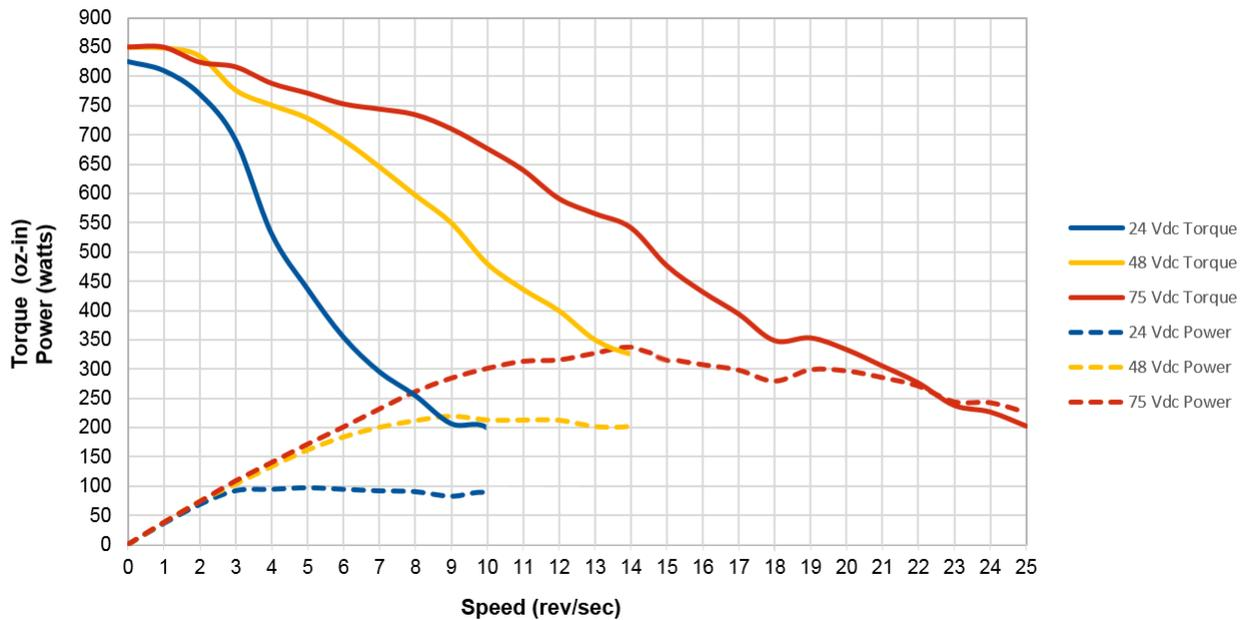

Figure R1.9 SMD34K-850 Torque and Power Curves
**Example 2:** An SMD34K-850 will be running at a maximum of 20 RPS and a 75 Vdc supply will be used. Based on the power curve in figure R1.9 on the previous page, the power at this speed is 295 W, but the maximum power over the entire speed range is 335 W, which occurs at 14 RPS. Therefore, the 335 Watt value should be used, and the 75 Vdc supply should be able to generate 500 W to 600 W.